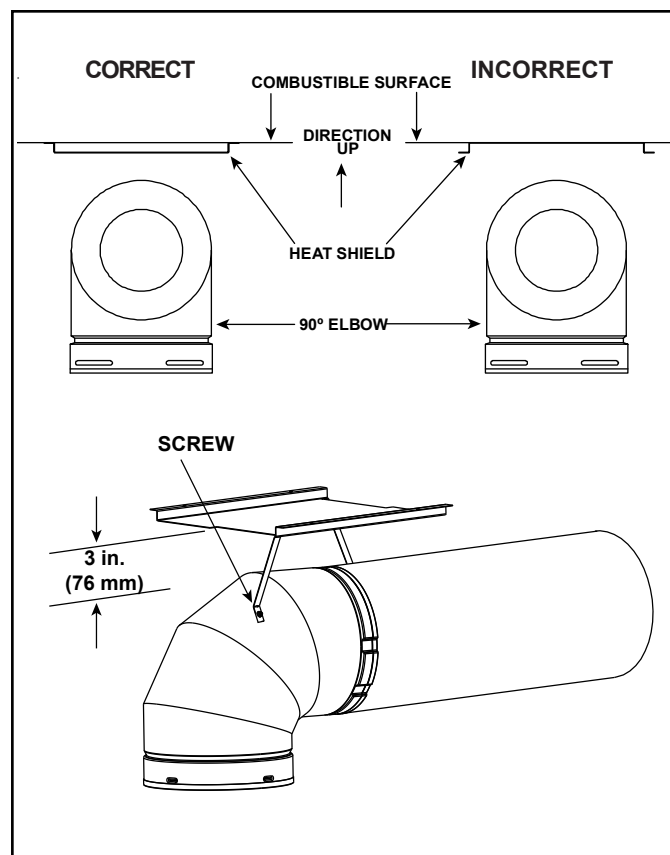

Figure 5.2 Elbow Heat Shield Installation
2. Fasten the shield in place using the four pilot holes. The shield should be oriented such that the dimension (longest dimension) is running in the same direction the elbow is pointing. The shield should be centered directly above the elbow, and positioned so that it creates a 1/2 inch airspace between the shield and the combustible surface. See Figure 5.2.